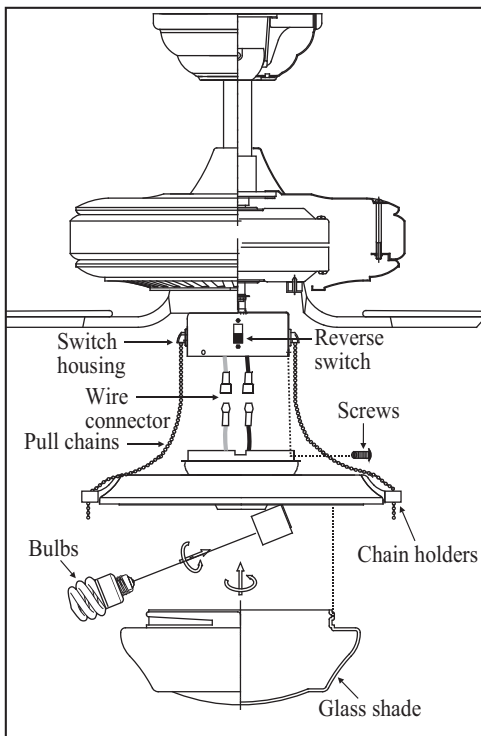

Figure 20
2. Carefully push all wires back into the switch housing. Attach the light kit fitter by aligning its keyhole slots with the three screws holes and reversing switch on the side of switch housing. Tighten the three screws securely to prevent the light kit from vibrating loose.(Fig. 20)
3. Pass the two pull chains on the switch housing through the chain holders located on the light fitter, install the fobs to the pull chains. (Fig. 20)
5. Raise glass shade up against the light kit and secure it to fan by turning glass clockwise until snug. DO NOT OVERTIGHTEN. (Fig. 20)